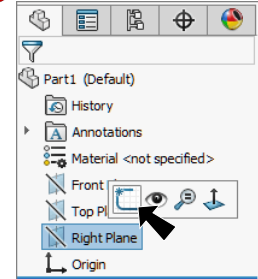
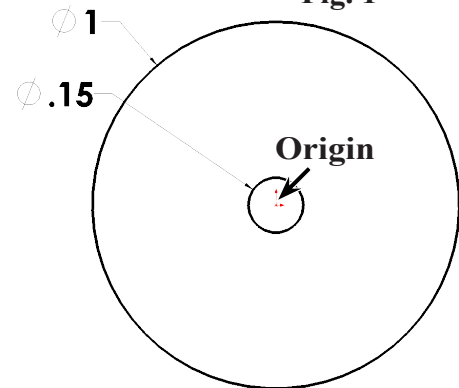
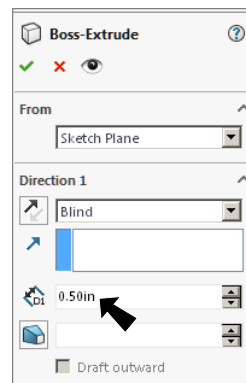

Fig. 1
Fig. 2
Fig. 3
Step 2. Click **Right Plane**  in the Feature Manager and click **Sketch**  on the context toolbar, **Fig. 1**.
Step 3. Click **Circle**  (S) on the Sketch toolbar.
Step 4. Sketch **two circles** starting at the Origin , **Fig. 2**.
Step 5. Click **Smart Dimension**  (S) on the Sketch toolbar.
Step 6. Dimension circle diameters, **Fig. 3**.